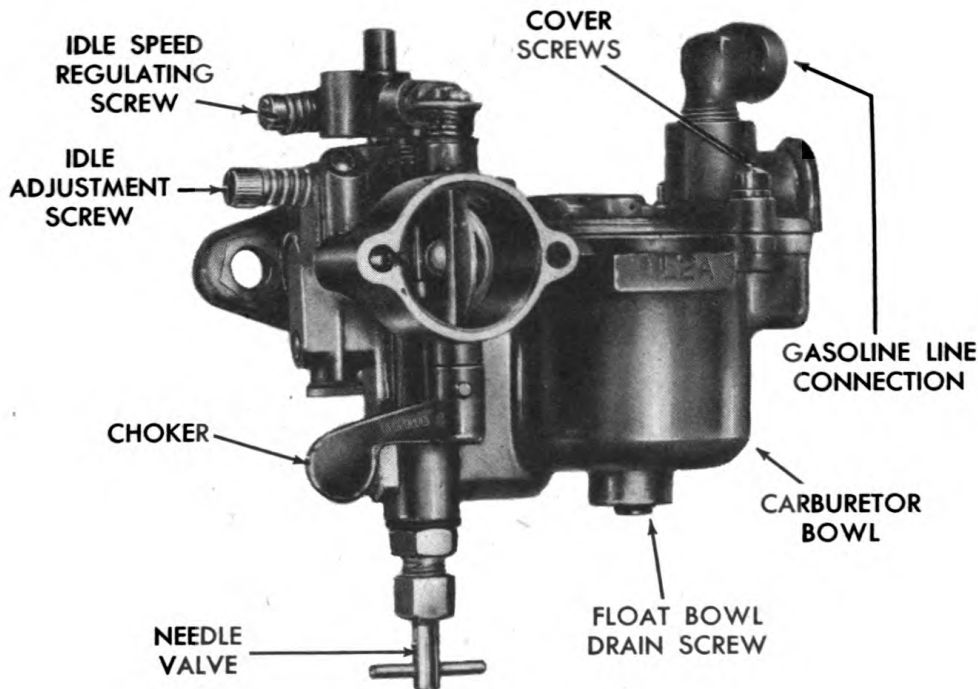

Figure 22—Carburetor Adjustment Points
b. Cleaning. (See figure 22)
- (1) Remove three bowl cover retaining screws.
- (2) Remove float and inlet needle and seat.
- (3) Remove needle valve.
- (4) Remove float bowl drain screw.
- (5) Remove jets, using a small screwdriver.
- (6) Remove idling adjustment screw.
- (7) Clean jets by blowing out all dirt with air.
- (8) Clean all passages in carburetor body by blowing out with air.
d. **Carburetor Assembly and Installation.** (See figure 22.)
- (1) Install idling adjustment screw.
- (2) Install jets.
- (3) Install float bowl drain screw.
- (4) Install needle valve.
- (5) Position new float bowl cover gasket on carburetor body.
- (6) Carefully place bowl cover assembly on bowl and install three bowl cover retaining screws.
- (7) Attach carburetor to intake manifold.
- (8) Connect throttle control linkage.
- (9) Install carburetor air cleaner and pipe assembly.
- (10) Connect gasoline line to carburetor.
- (11) Open shut-off valve in gasoline line.
e. **Idling Adjustment.** (See figure 22.)—Close throttle and adjust idle speed regulating screw, so that engine operates slightly faster than normal idling speed. Close the idle adjustment screw until marked missing or fluttering is noticed, then slowly turn it back until engine runs smoothly. Reset the idling speed regulating screw to desired idling speed.